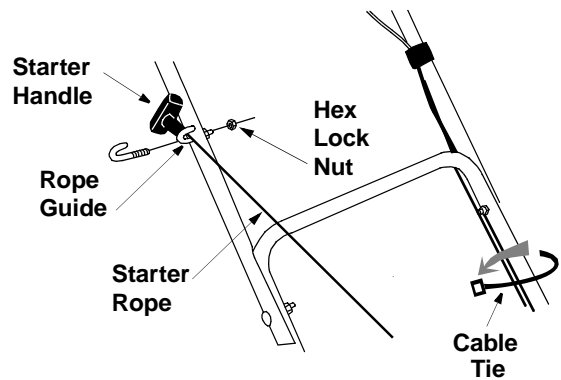

Figure 4
4. Fasten the cable to the left lower handle with the cable tie. Pull the cable tie tight and trim off the excess. See Figure 4.
3. Place the rope guide around the starter handle, so the opening in the rope guide is toward the front of the mower. Insert the rope guide into the right side of the handle, and secure with hex locknut. See Figure 4.